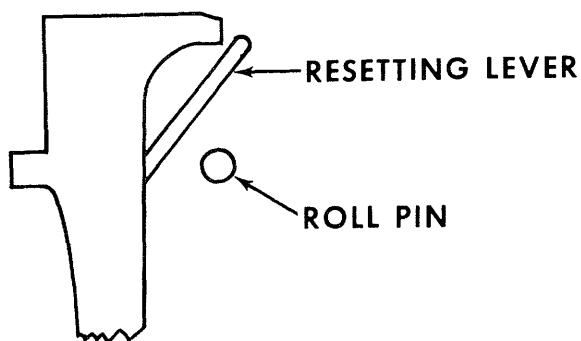

Fig. 4. Roll pin position
*Note:* It is very important to be sure the resetting roll pin is beneath the resetting surface of the resetting lever. See Fig. 4.